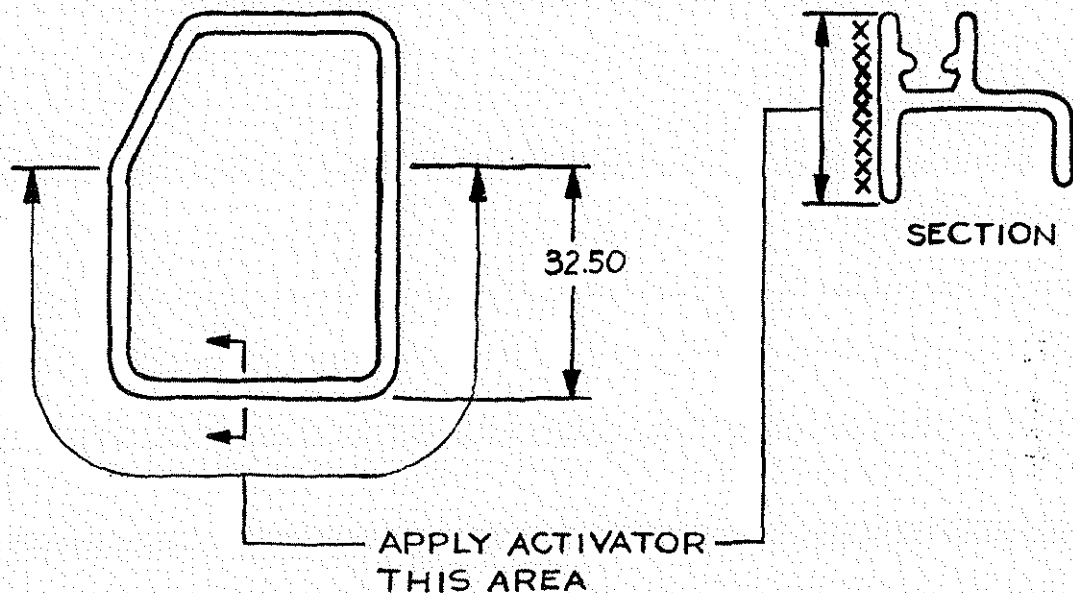

FIGURE 2
2. @ B.L. 0.00, mask is @ Sta. 3.323 & El. 31.312 (Fig. 2)
- 2.) The door frame should also have activator applied to the mating flange surface using the same technique mentioned above, (see Figure 2).